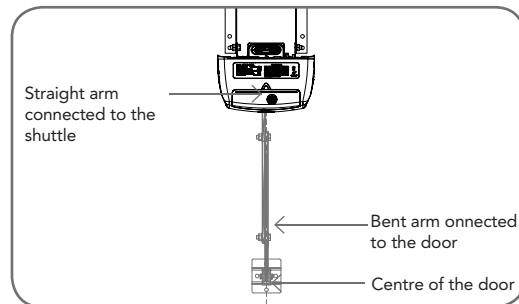

fig 25
- Assemble the bent arm(connecting to the door) to the right side of the straight arm (connecting to the shuttle) with bolts and nuts supplied in the accessory pack (**Fig. 25**). Always use both bent and straight arms.